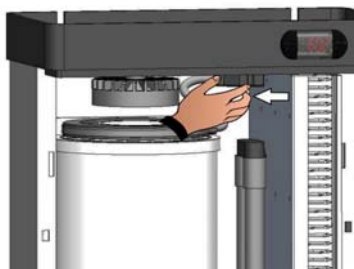

Fig. 32
5. Remove the electric connection connector of the cylinder (Fig. 32).